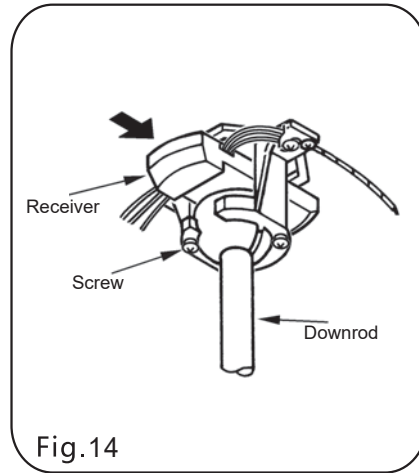

Fig.14
- Step 1: Insert the receiver unit into the hanger bracket with the flat side of the receiver facing the ceiling.(Fig.14)